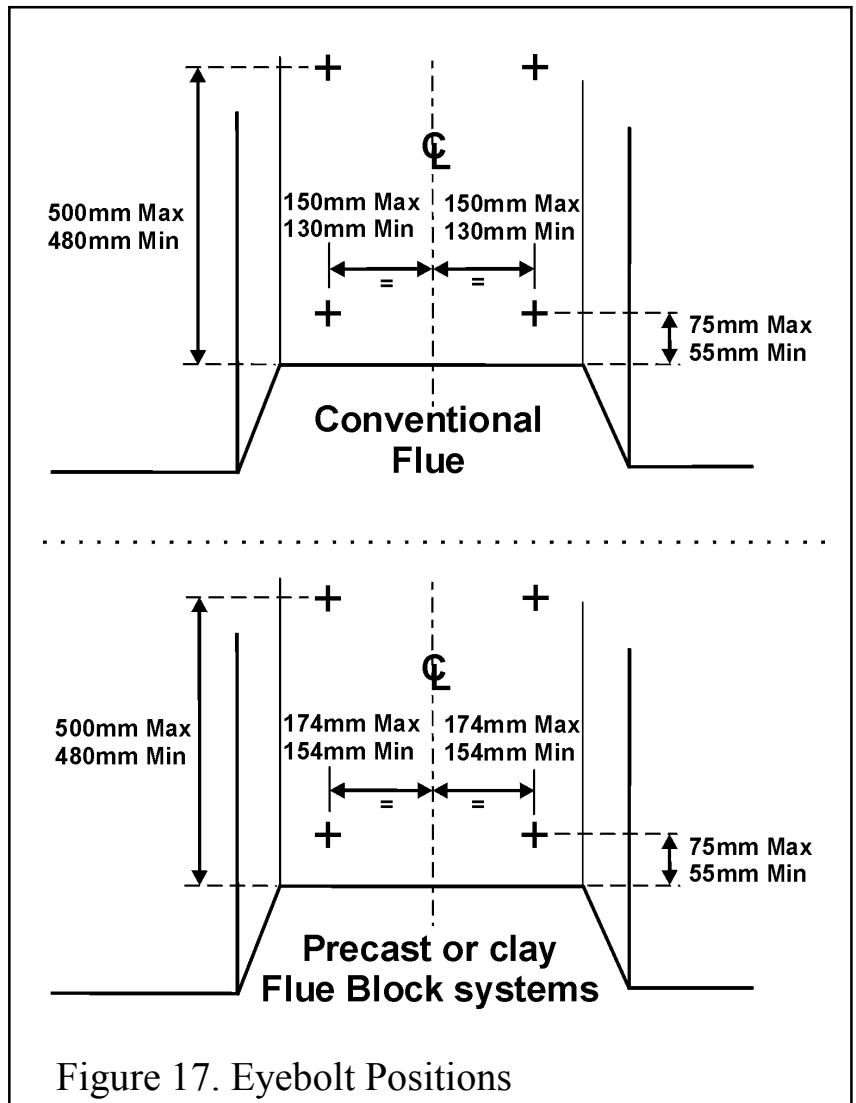

Figure 17. Eyebolt Positions
2. Drill four holes in the rear wall of the fireplace for the eyebolt plugs. The holes should be drilled within the range of positions shown in figure 17 using a no.12 masonry drill. The holes should be equidistant each side of the centre line of the fireplace to ensure that the appliance finishes centrally in the opening when tension is applied to the cables.